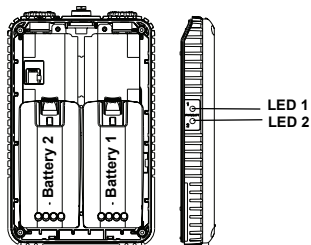

Figure 2. Li-Ion Open Housing
In order to identify which LED refers to which battery, refer to "Figure 2: Li-Ion Open Housing" below:
“Figure 2. Li-Ion Open Housing” on page 10 gives a back view of the opened repeater, showing the two Li-Ion battery packs and a side view of the Li-Ion battery frame showing the two side LEDs. LED 1 will indicate status for battery 1 on the right side and LED 2 will indicate status for battery 2 on the left side.
4. Double check the type of battery frame the repeater has to make sure you are using a Li-Ion Battery Frame. Refer to “Figure 2. Li-Ion Open Housing” on page 10.